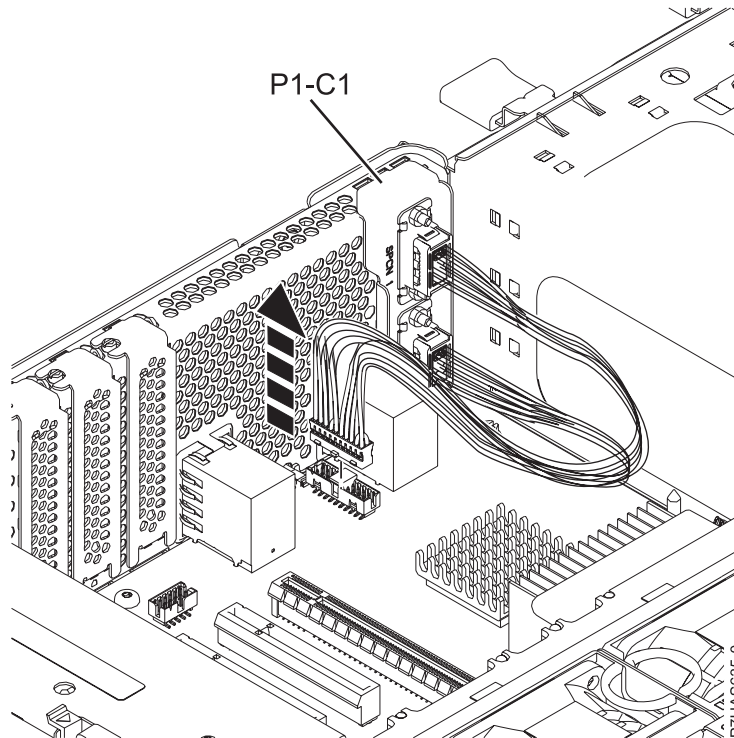

Figure 9. Removing the SPCN cable assembly
- a. Disconnect the SPCN tailstock cable from the system backplane, as shown in Figure 9 on page 10.